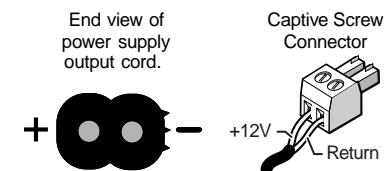

Figure 5 — Power connector wiring
- ④ **Power connector** — Plug the external 12V power supply into this 2-pole captive screw connector. The power supply is included with the unit. Figure 5 shows how to wire the connector.